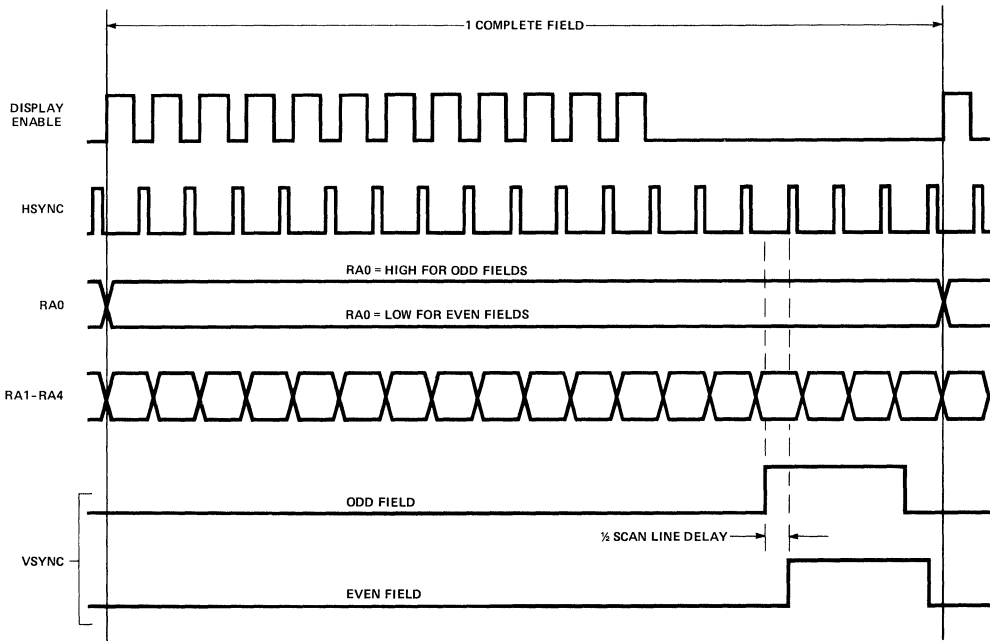

Figure 12. Interlace-Sync-and-Video Mode Timing
- c) Interlaced Sync and Video Mode. This mode is used to double the character density on the screen by displaying the even lines in even fields and the odd lines in odd fields. As in the Interlace-Sync mode, the VSYNC position is delayed in alternate display fields. In addition, the address generation is altered. Figure 12 illustrates the timing.